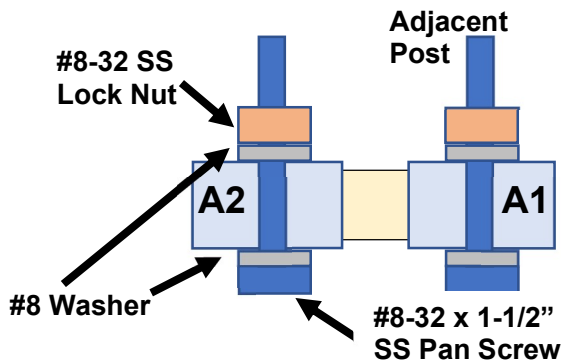

FIGURE 29
□ **STEP 6.26** Insert (1) #8-32 x 1-1/2" screw (11701) through a #8 washer (11703) and the A2 hole as shown in **FIG. 29**. Hardware should match the adjacent module mounting post of A1. The supporting hardware is (2) #8 SS washers (11703), and (1) #8-32 lock nut (11702). Tighten hardware securely, as shown in **FIG. 30**.
□ **STEP 6.33** Insert (1) #8-32 x 1-1/2" screw (11701) through #8 washer (11703) and through the A3 hole, thereby matching the adjacent module mounting post hardware of A2, as shown in **FIG. 29**. Supporting hardware is (2) #8 SS washers (11703), and (1) #8-32 lock nut (11702). Tighten hardware securely, as shown in **FIGs 37 and 38**.